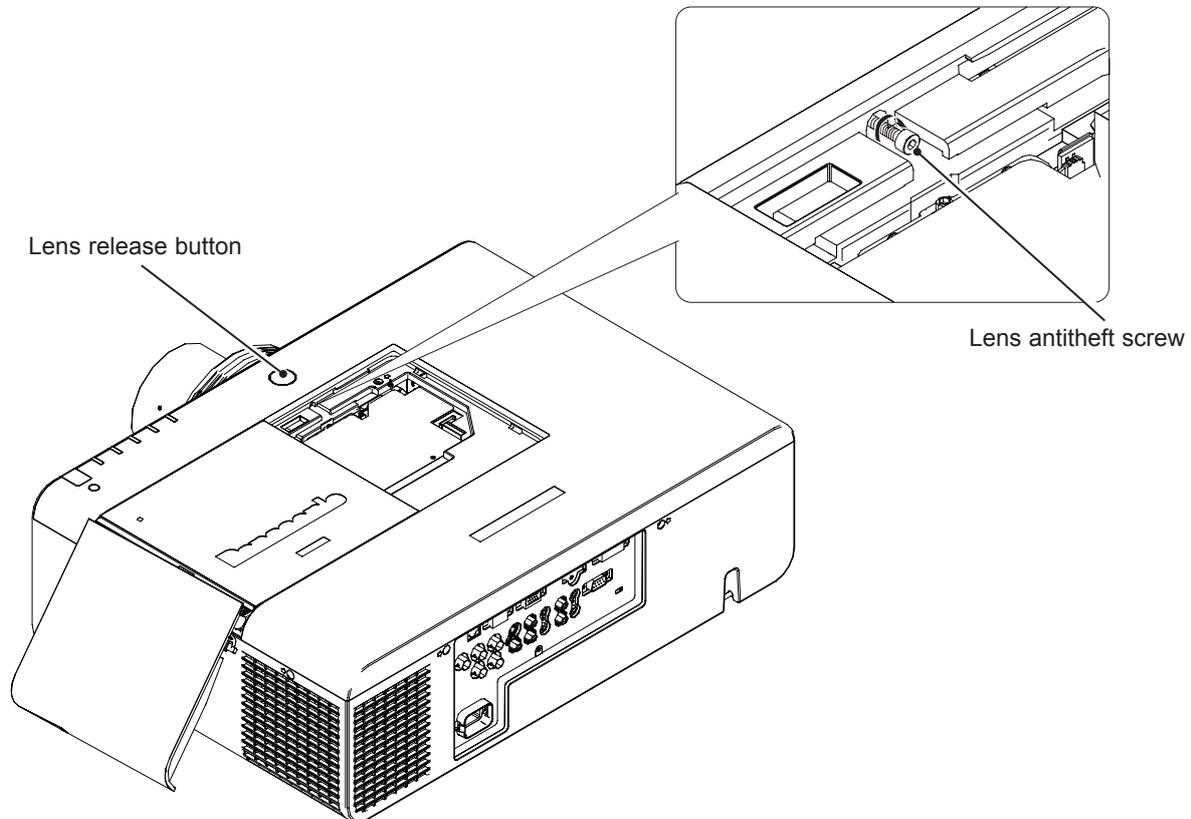

Fig. 3
- 3** Insert the lens antitheft screw onto the screw hole on the cabinet top and turn it until the lens release button is locked (Fig. 3).